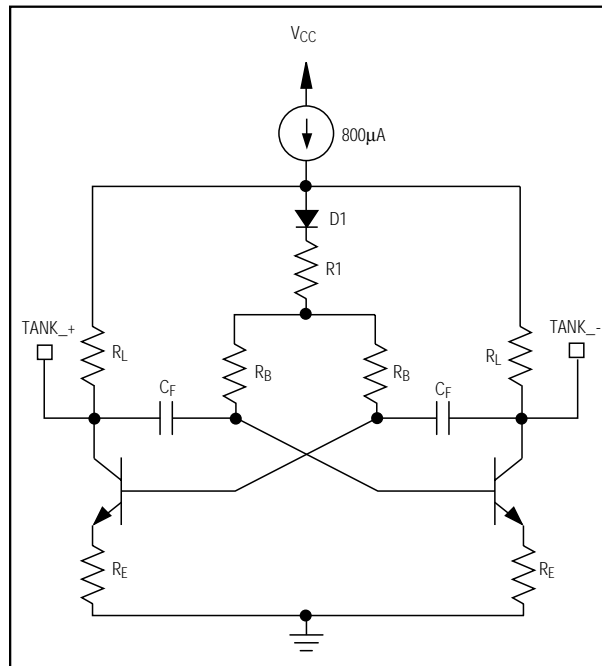

Figure 4. Voltage-Controlled Oscillators
The LO signal for downconversion is provided by a voltage-controlled oscillator (VCO) consisting of an on-chip differential oscillator, and an off-chip high-Q resonant network. Figure 4 shows a simplified schematic of the VCO oscillator. Multiband operation is supported by the MAX2306 with dual VCOs. VCO_H and VCO_L are selectable with the MODE pin or the VCO_SEL (VS) control bit. They oscillate at twice the desired LO frequency. For applications requiring an external LO, the VCOs can be bypassed with the VCO_BYP (VB) control bit.